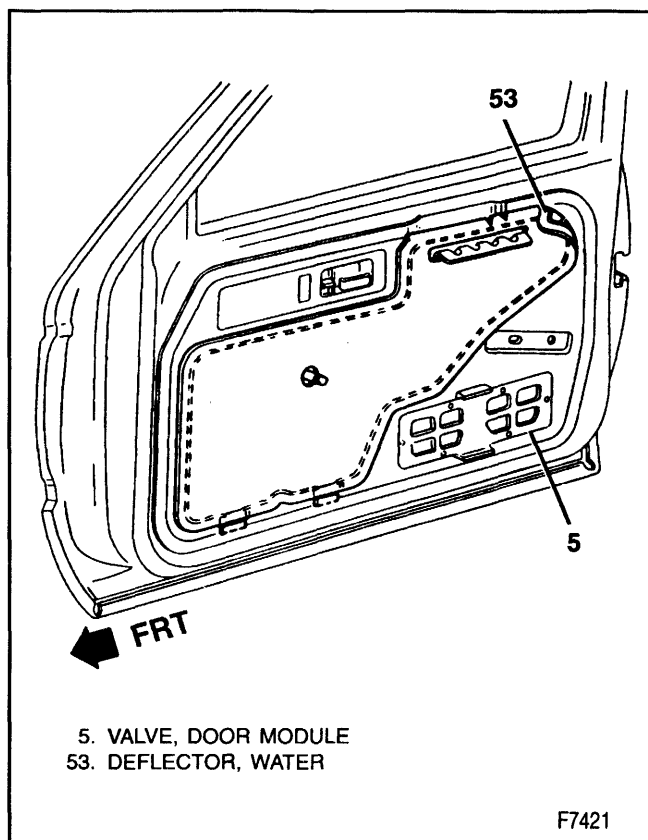

Figure 13—Inner Panel Water Deflector and Pressure Relief Valves
**Remove or Disconnect (Figure 13)**
**Install or Connect (Figure 13)**
DOOR MODULE VALVE**Remove or Disconnect (Figure 13)**
Install or Connect (Figure 13)